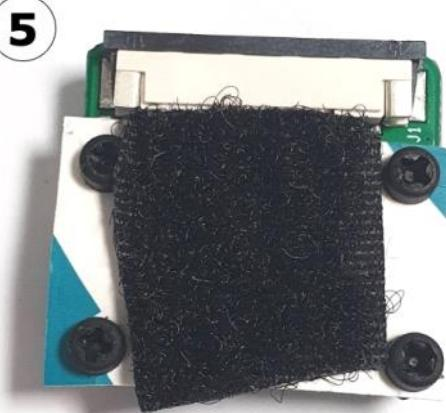

Figure 13.6 – The back of the cardboard/camera assembly with our hook-and-loop fastener
5. Now cut a small amount of the hook-and-loop fabric, to which the material on the pan-and-tilt mechanism will fasten, and stick it to the back of the cardboard, as shown in *Figure 13.6*. Note that the camera may have a film covering the lens—please remove this.